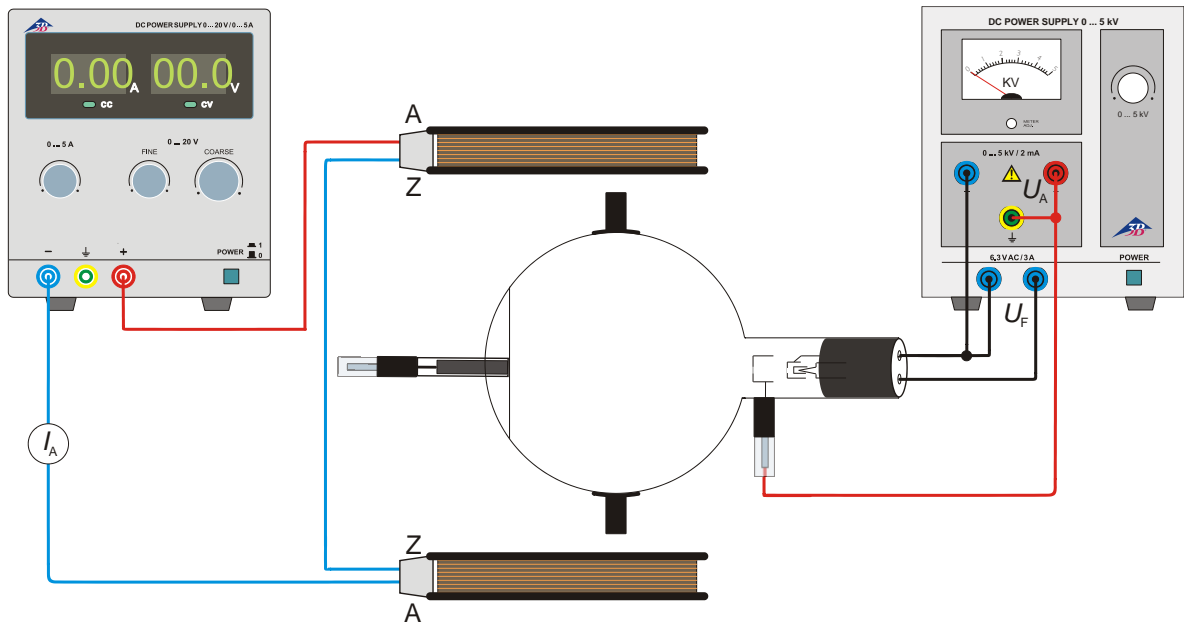

Fig. 3 Estimation of the specific electron charge  $e/m$
- Set up the experiment as in fig. 3.